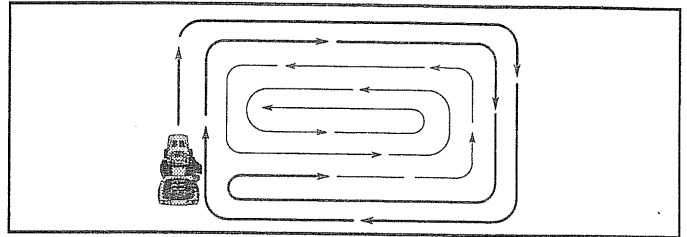

FIG. 13
- When mowing large areas, start by turning to the right so that clippings will discharge away from shrubs, fences, driveways, etc. After one or two rounds, mow in the opposite direction making left hand turns until finished (See Fig. 13).